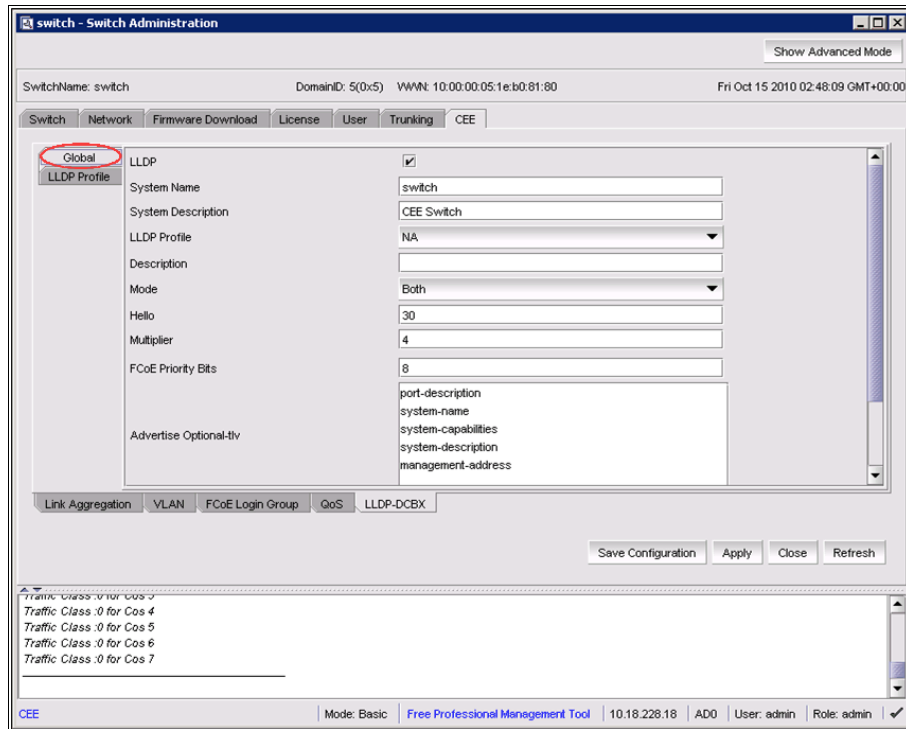

Figure 5-14 CEE tab → LLDP-DCBX tab → Global tab
1. From the Switch Administration panel make the following tab selections: **CEE** → **LLDP-DCBX** → **Global** (Figure 5-14 on page 160).